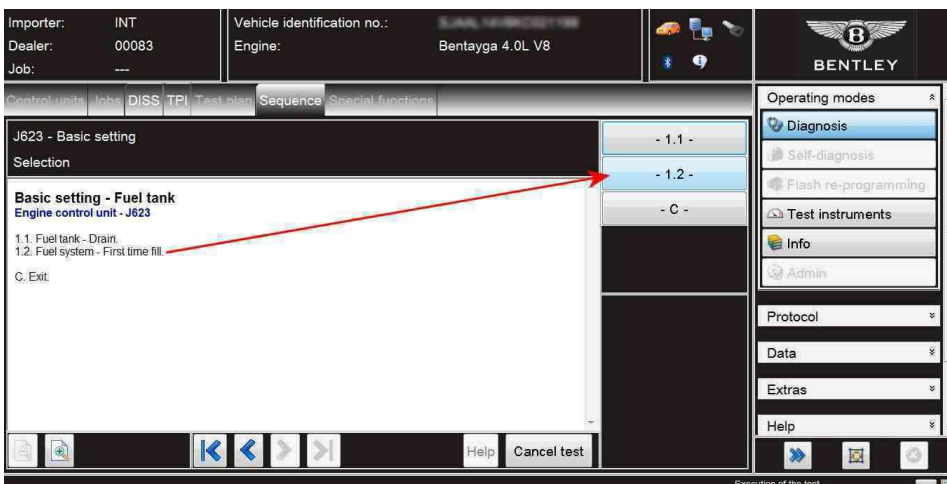

Figure 9
- Referring to Figure 9 – Select 1.2 Fuel system – First time fill and follow all remaining screen prompts until completion